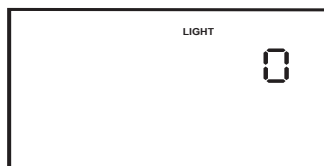

Figure 6–11 LED Backlight Setting Screen
1. From either the Monitoring or Standby screens, press the Right User button until the LED Backlight Setting screen appears, as shown in Figure 6–11.